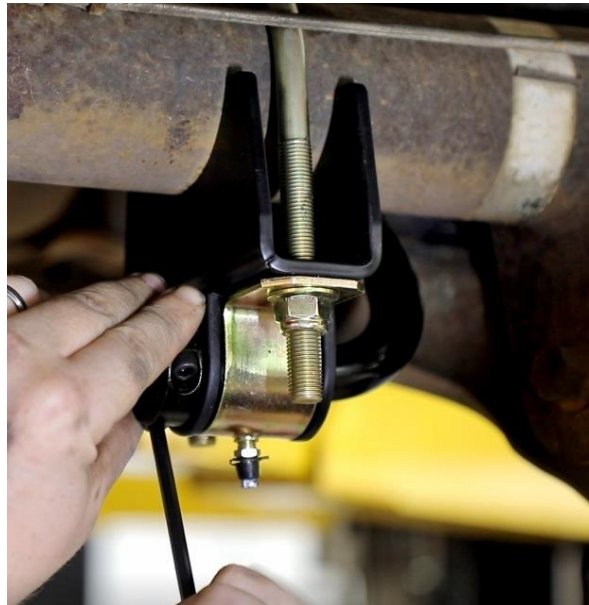

Figure 29 - Install Split Lock Collars
34. Separate the split lock collars into two pieces and place them around the sway bar so they are tight against the inside of the sway bar bushings on both sides of the rear axle. Re-assemble the collar using medium strength blue Loctite 242 on the bolts and torque to 14 ft-lbs. (Figure 29).